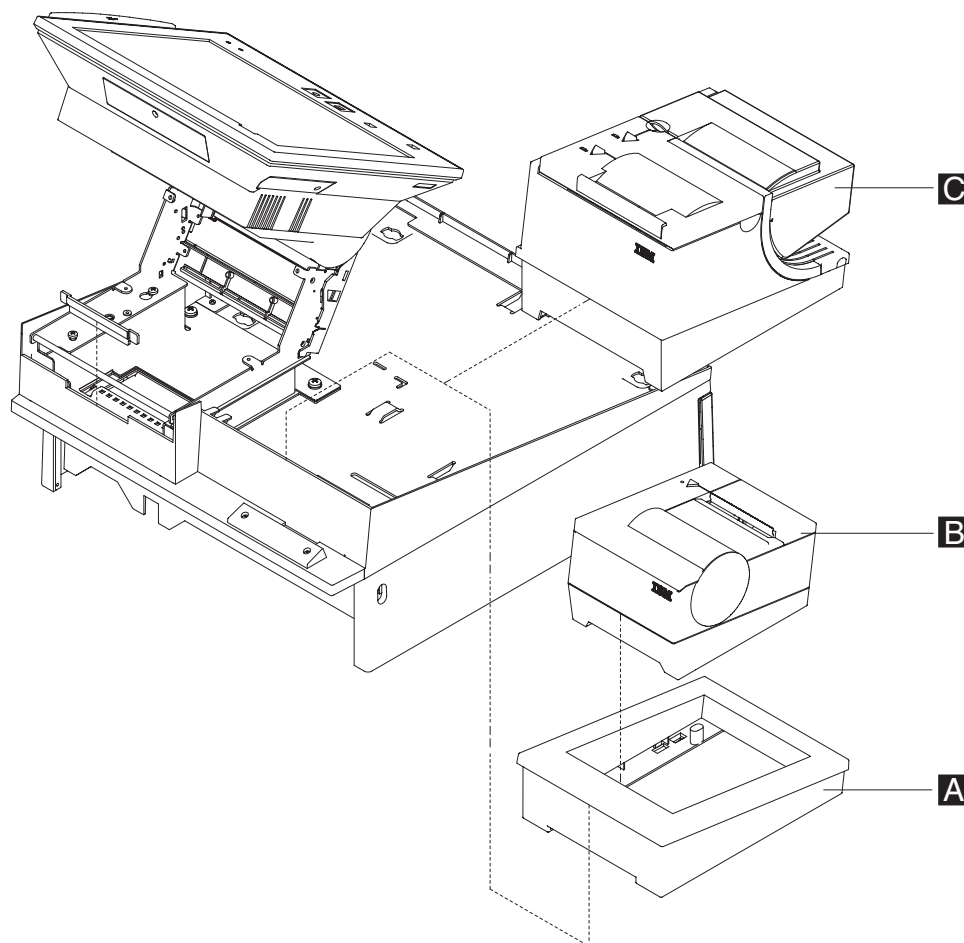

Figure 39. Removing the 4610 printer from the full-size keyboard integration tray
- b. For the **4610 SureMark Models TG3, TG4 and TG5 printers** **C**, lift the printer up and off the keyboard integration tray, as show in Figure 39.